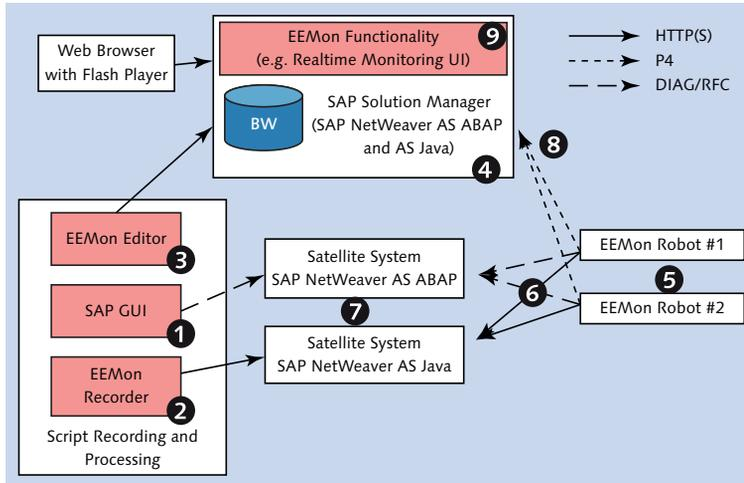

Figure 6.40 Technical Infrastructure of EEMon
In order to understand how EEMon works, you should familiarize yourself with the technical infrastructure of EEMon. Figure 6.40 provides a broad overview of this technical infrastructure, which we will discuss in greater detail next.
EEMon scripts are the main element of EEMon. They contain all the information needed to simulate a typical end-user activity on a particular IT system. In addition to SAP GUI scripts for ABAP-based systems, which can be recorded by SAP GUI (see (1) in Figure 6.40), there are also HTTP scripts, which are created using a special program, known as the EEMon recorder (2). After the recording, the EEMon editor (3) is used to edit and test the scripts. We will describe these three programs in greater detail in Section 6.3.4.